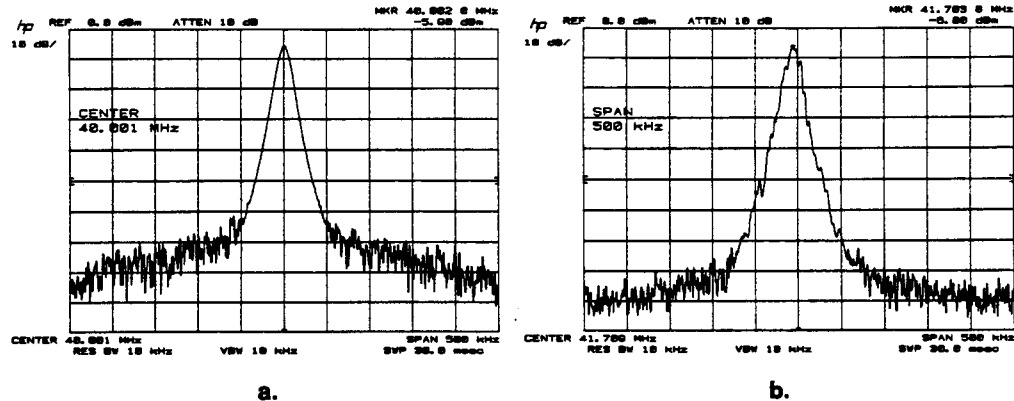

Figure 4. Phase Locked Output Compared to Open Loop Output in SRC TUNE Mode
6. The signal observed on the spectrum analyzer will appear jittery as in Figure 4 (b), not solid as in Figure 4 (a). This is because in SRC TUNE mode the output is not phase locked.